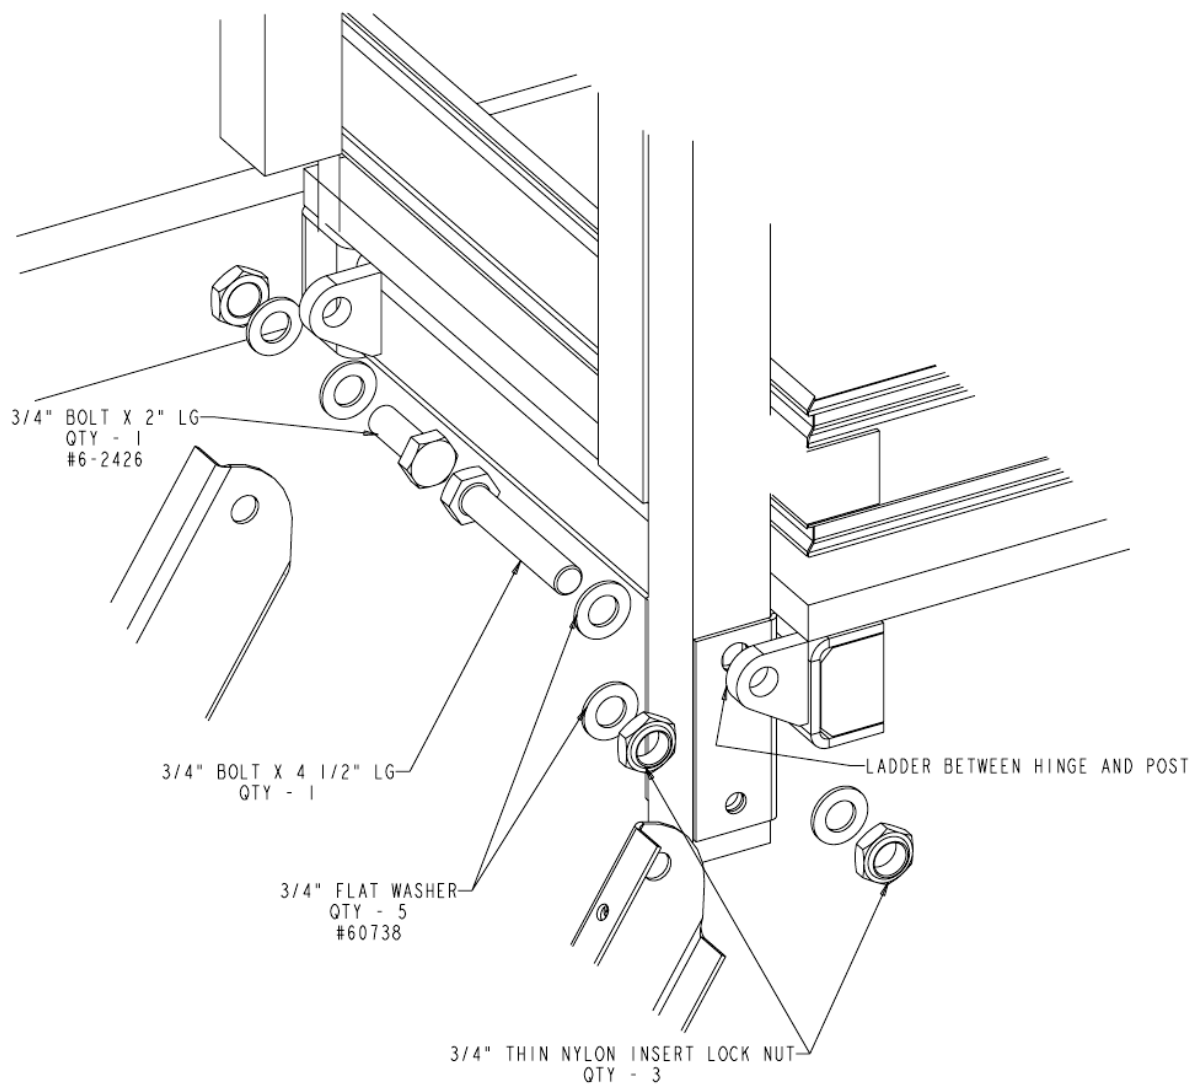

Figure 24 – Ladder Installation
12. Install the ladder to the bracket in the gate location. Hardware required and arrangement is shown in Figure 24.